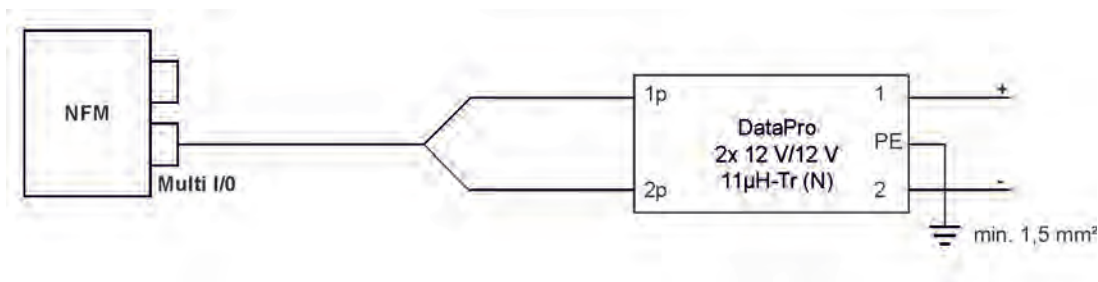

Fig. 25-5 Overvoltage protection for power supply DC general
For **direct external power supply** via 12 V DC (e.g. for solar power supply), use the types DataPro 2x1 12V/12V-11mH-Tr(N) for non-Ex areas. (Fig. 25-5).